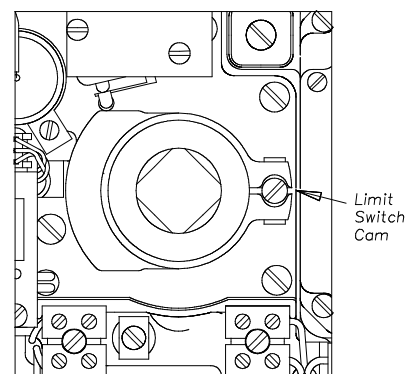

FIGURE 6b. DIGITAL EL SWITCH STRIKER
4.2.2 Metal coupling cams are adjusted by releasing the screw shown in figure 6b, moving to desired position and re tightening. Set the lever cam first. Ensure the clamp section of the cam does not strike a switch at any part in the actuator's travel.